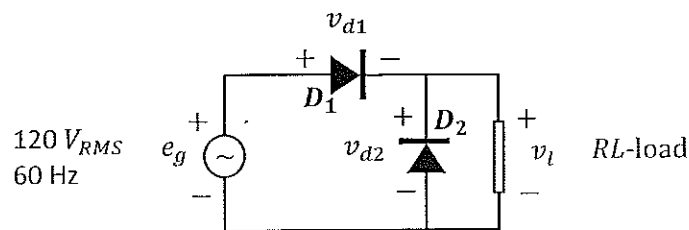

Figure Q6: Half-wave rectifier circuit without negative voltage
As shown in figure Q6 in addition to the diode  $D_1$  an anti-parallel diode  $D_2$  connected to the load. The diode  $D_2$  is also known as a free-wheeling diode.
- b) Considering a diode drop voltage equal 1 V (when it is *on*) for both diodes, derive an expression for the load average voltage. Consider that the *RL* load in figure Q6 phase shift the current by  $45^\circ$  with respect to the voltage.